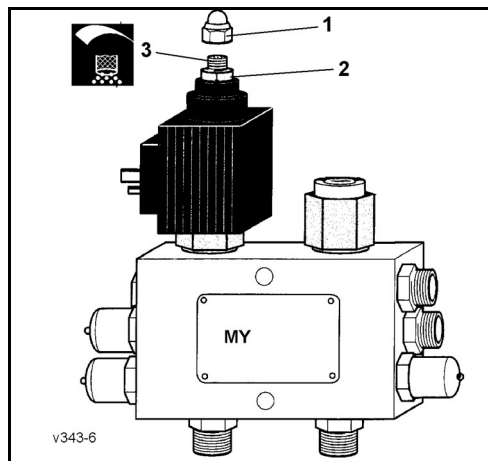
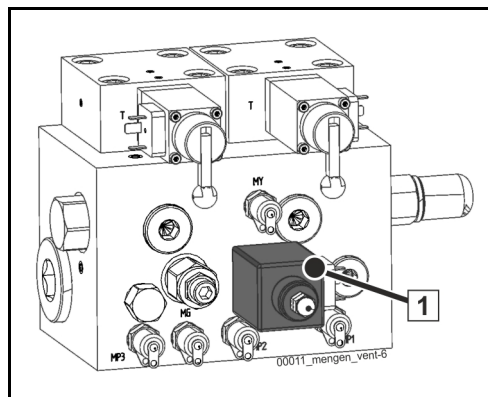

Fig. 225 Valve design 1
Fig. 226 Valve design 2
If the electrical system fails, however, it may be necessary to manually change the delivery rate (stroke rate) of your concrete pump on the hydraulic valve (**Fig. 225**), (**Fig. 226**).
1. Remove the cap nut (1) (**Fig. 225**),(**Fig. 226**).
2. Hold the screw spindle (3) with an Allen key and loosen the lock nut (2).
4. Configure the max. delivery rate (stroke rate) for the concrete pump on the "emergency-off block" for adjusting the delivery rate (**Fig. 225**)/(**Fig. 226**).